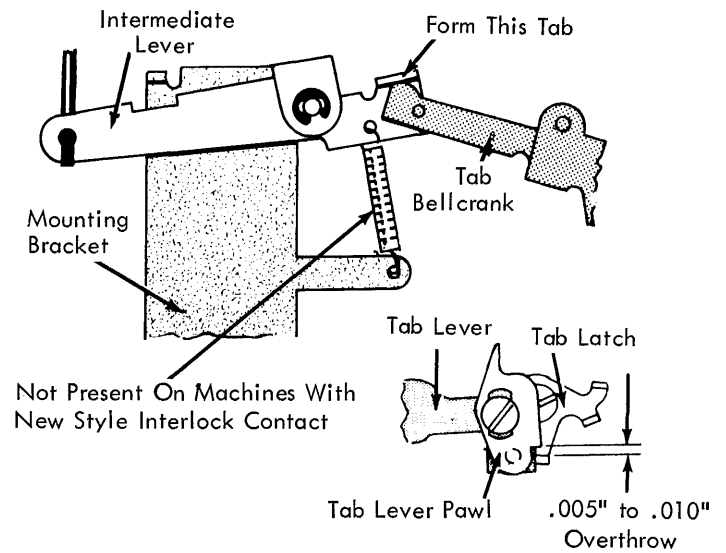

FIGURE 242.3. Intermediate Lever Tab
7. Intermediate Lever Tab, 15" Machine (Fig. 242.3) - With the tab interposer released and the backspace cam on its high point, form the intermediate lever tab so that the tab lever pawl overthrows the tab latch by .005" to .010".